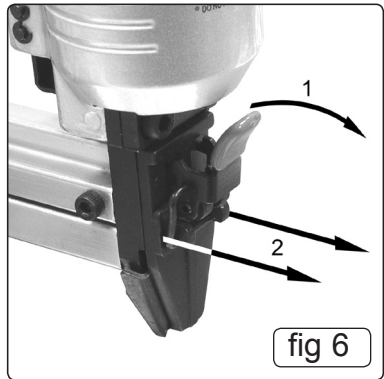

fig 6
- 4.3.3 Access the blockage by unclipping the driver guide front-plate (fig 6) using the release catch provided.